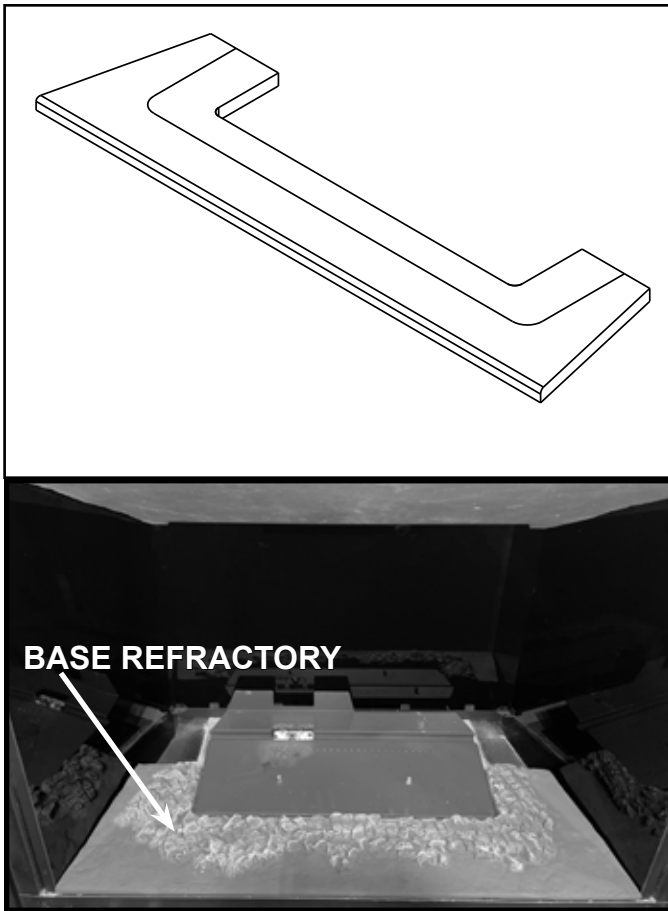
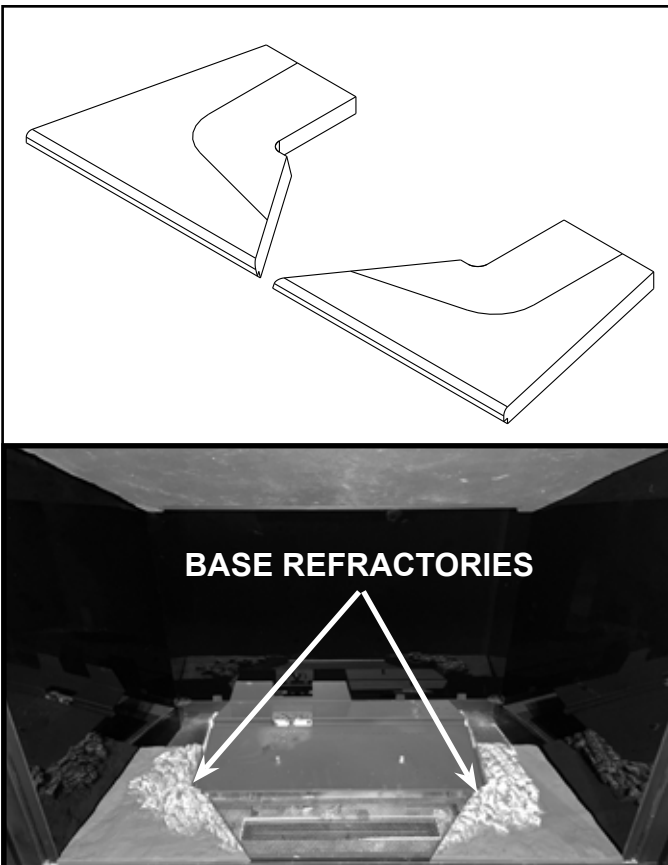

Figure 15 Type 1 Base Refractory Installed (One Piece Model)
Figure 16 Type 2 Base Refractory Installed (Two Piece Model)
15. Set new base refractory piece(s) in place as shown in Figure 15 or Figure 16. Refer to Table 1 for type of base refractory per model.